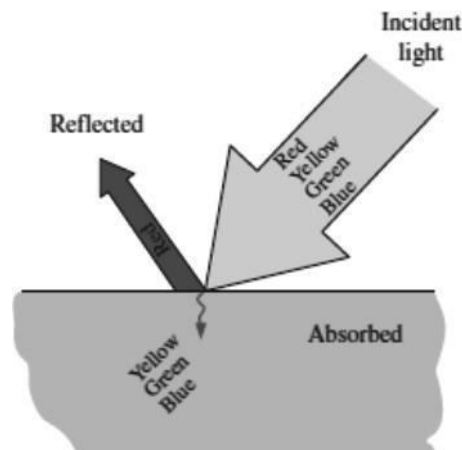

Fig. 5.10 Reflection of incident light from the surface
- A piece of clothing containing a pigment that reflects red while absorbing the remaining parts of the incident light appears “red” to the eye (Fig. 5.10). Leaves appear “green” because their cells contain the pigment chlorophyll, which strongly reflects green while absorbing other colors.